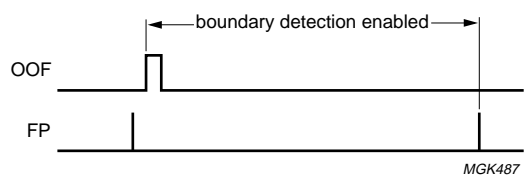

Fig.5 Alternate OOF timing.
Figure 5 shows frame and byte boundary detection activated on the rising edge of OOF, and deactivated by the first frame pulse (FP) after OOF goes LOW.